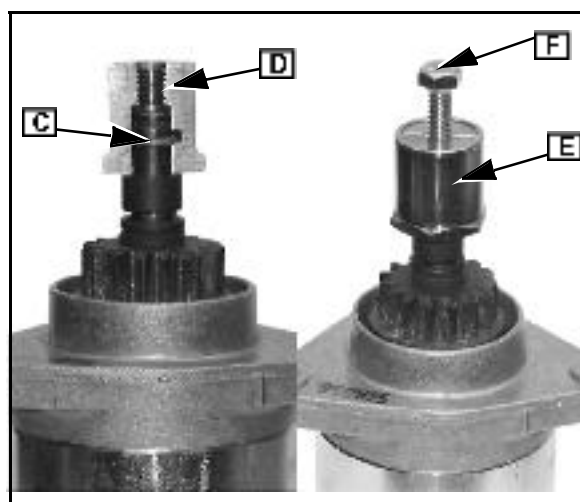

Fig. 40
3. Place two halves of tool #19467 (D), with hex ends down on armature shaft around snap ring (C) and grooves in two halves on retainer ring, Fig. 40.
4. Slide sleeve (E) of tool #19467 down over two halves.
5. Install puller screw ([F] Fig. 40) from tool #19467 in center of two halves, and turn screw in until retainer ring is removed.